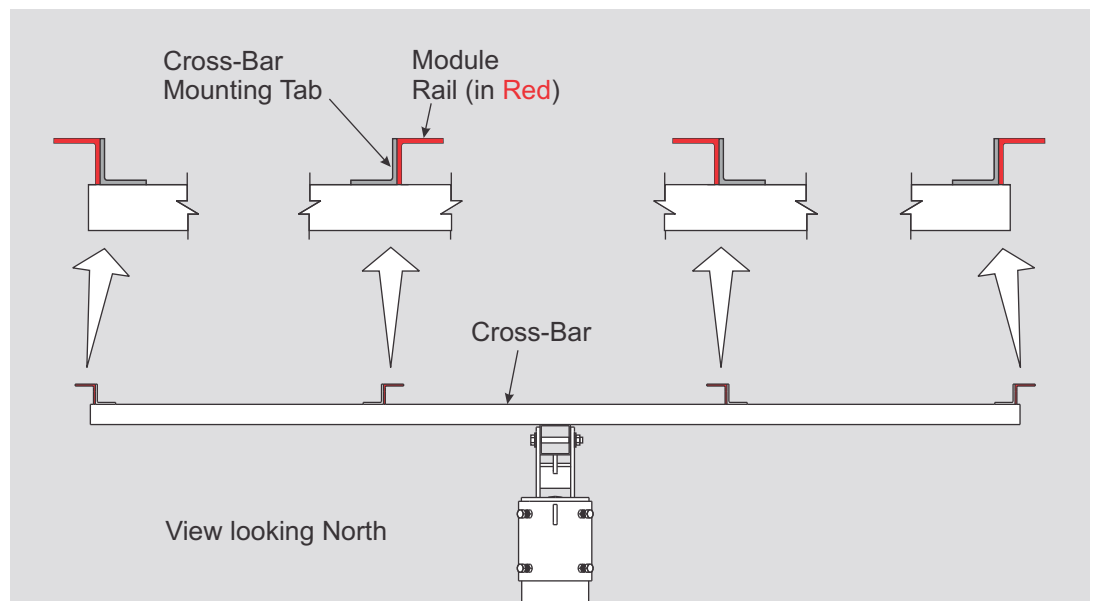
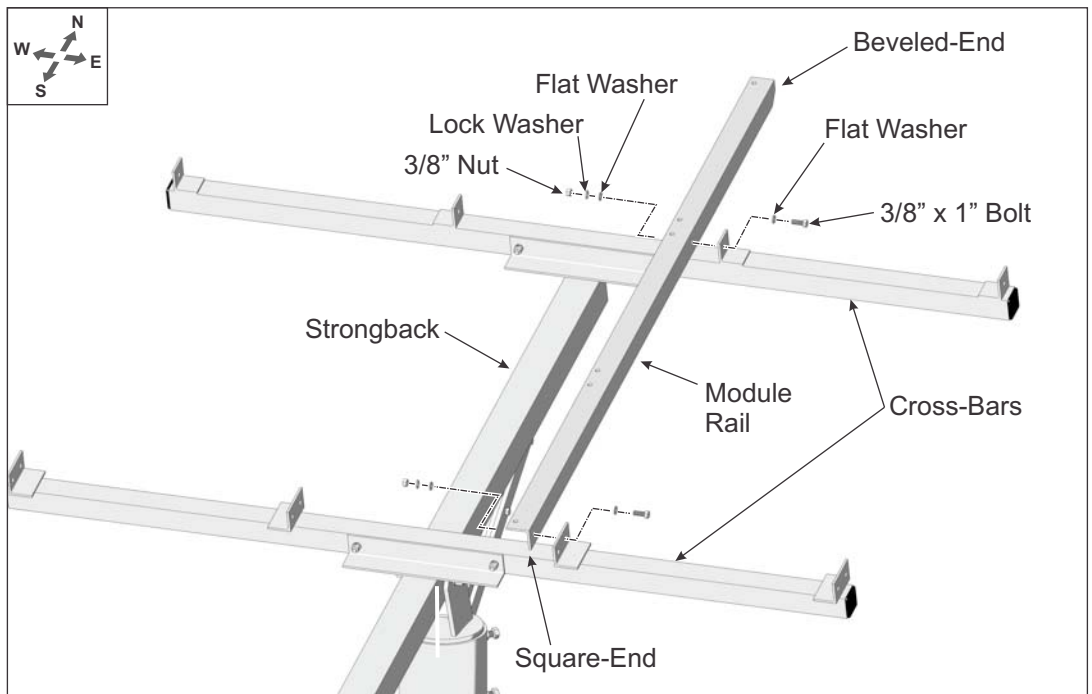
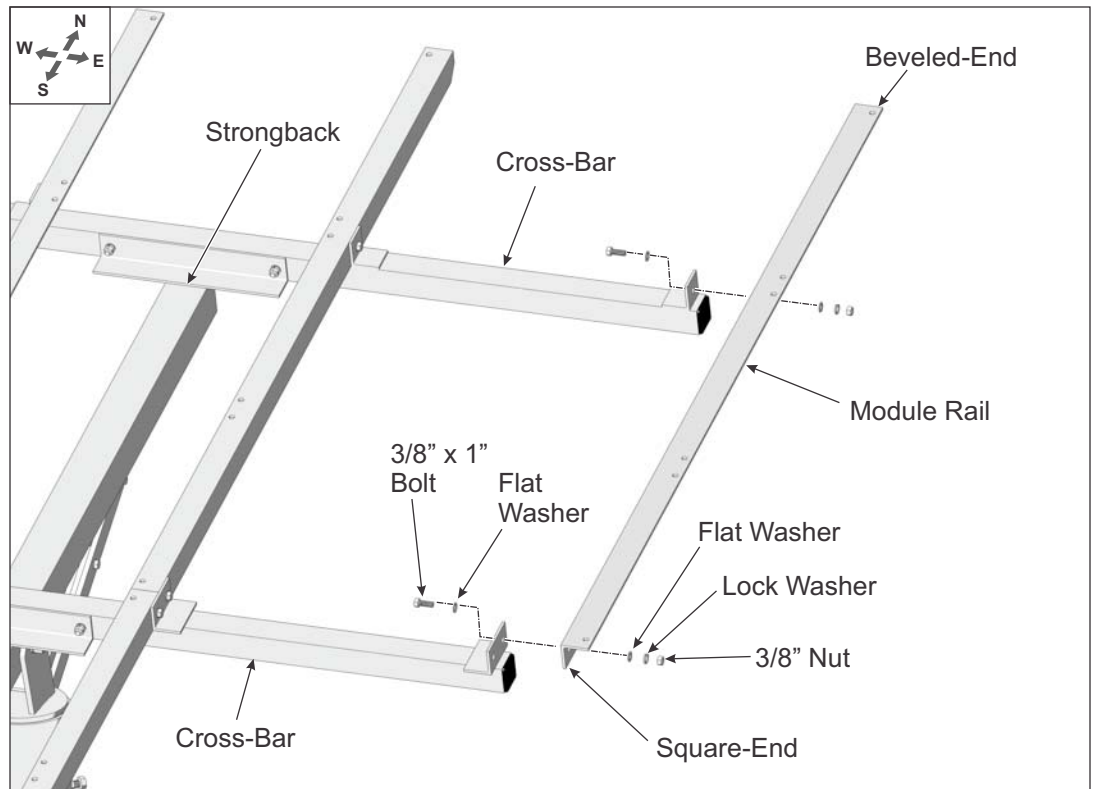

Figure 4-1: Orientation of Module Rails to Cross-Bars
Figure 4-2: Installing the Northern-most inboard Module Rails to Cross-Bars
Figure 4-4: Installing the Northern-most outboard Module Rails to Cross-Bars
Additionally, Module Rails are installed differently depending on whether they are mounted inboard or on the outer edges of the Cross-Bars. (See Figure 4-1)
- A. Referring to Figure 4-1 for orientation of the inboard Module Rails, position the first section of Module Rail (with its angle cut end positioned north) at the northern most position on the Cross-Bars. Align the Module Rail mounting holes with the holes of the Cross-Bar mounting tabs and secure with 3/8" x 1" bolts and hardware. Finger-tighten for now. (See also Figure 4-2)
- A. Referring to Figure 4-1 for orientation of the outboard Module Rails, position the first section of Module Rail (with its angle cut end positioned north) at the northern most position on the Cross-Bars. Align the Module Rail mounting holes with the holes of the Cross-Bar mounting tabs and secure with 3/8" x 1" bolts and hardware. Finger-tighten for now. (See Figure 4-4)